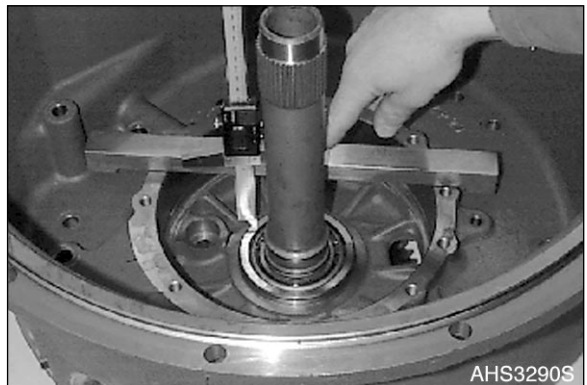

Figure 381
7. Adjust Axial play of the Drive gear bearing = 0.03 - 0.07 mm (0.0012 - 0.0028 in) (Figure 381 - EXAMPLE L).